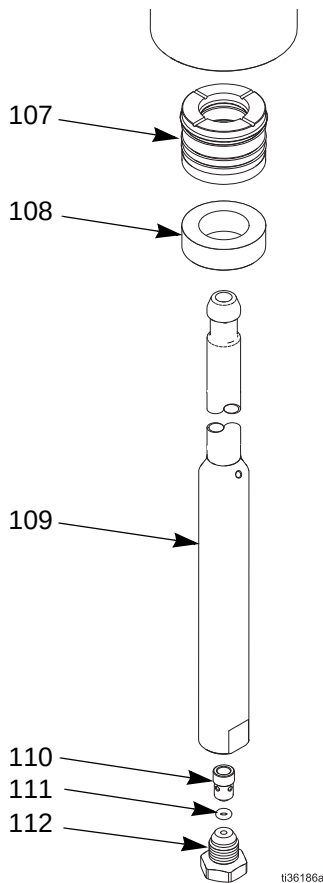

FIG. 7
11. Install the new secondary seal stack (107), including bearing (108). Use grease during installation.
12. Install two new o-rings (118) on the lower fluid cylinder (113). Orientation does not matter for this part.
13. Apply anti-seize compound to both lower fluid cylinder (113) threads and install into the fluid cylinder (101). Torque to 100 ft-lbs (136 N•m).
14. Inspect and replace the plunger o-ring (111), as required, and insert the plunger poppet (110) into the plunger (109) as shown in FIG. 7. Apply medium strength (blue) thread locker to the check seat (112). Torque to the following values depending on the size of your pump lower: